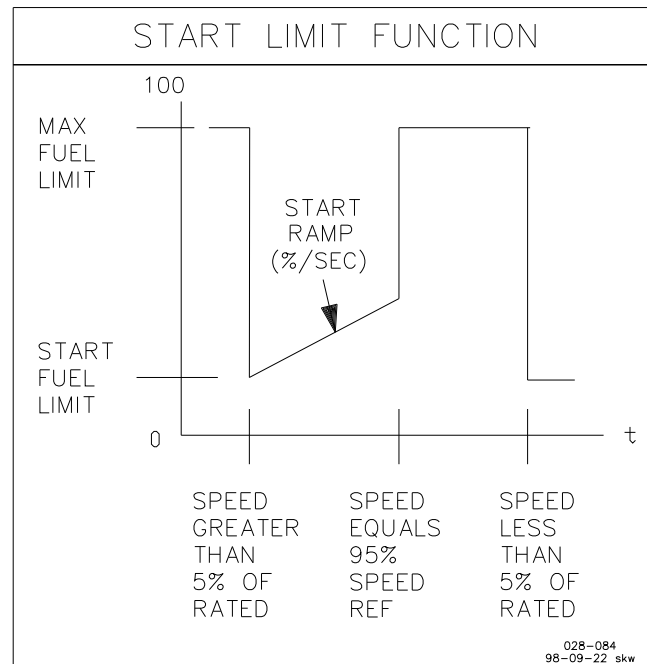

Figure 4-7. Start Limit Function
1. **START FUEL LIMIT** limits the percent fuel demand when the engine is started. The limit is usually set at the fuel level required to start the engine. The limiter is disabled when the engine speed exceeds 95% of speed reference (see Figure 4-7).